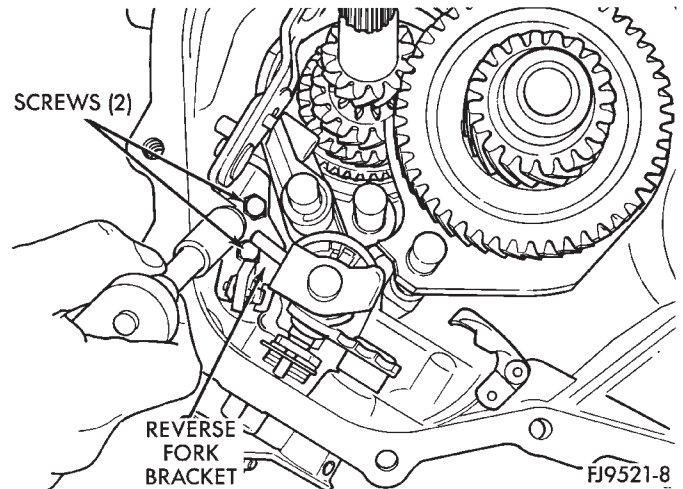
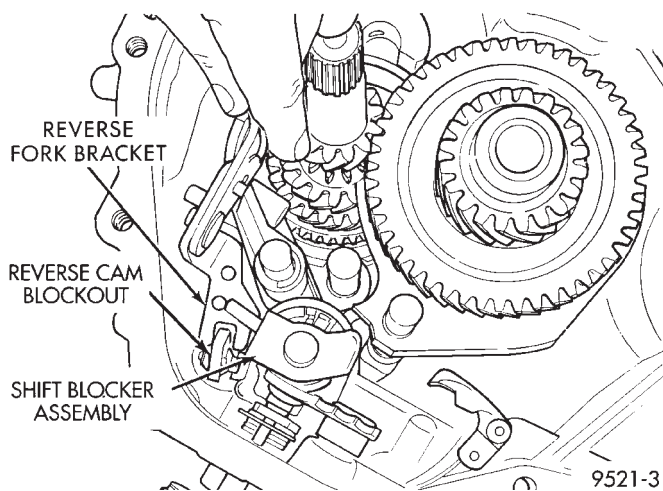

Fig. 83 Reverse Fork Screws
Fig. 82 Reverse Fork Bracket
(19) Install reverse fork bracket and reverse lock-out. Tighten screws to 11 N·m (96 in. lbs.) torque (Fig. 82) (Fig. 83).